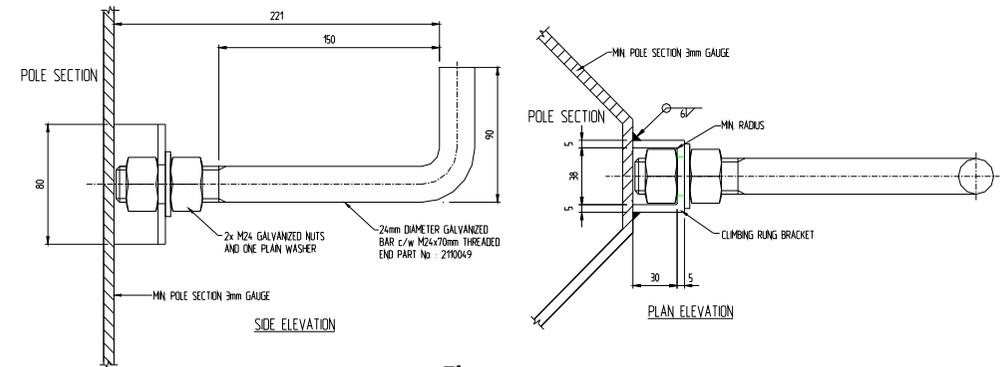

Figure 5.
- Refer to **Figure 5** for the climbing rung assembly.